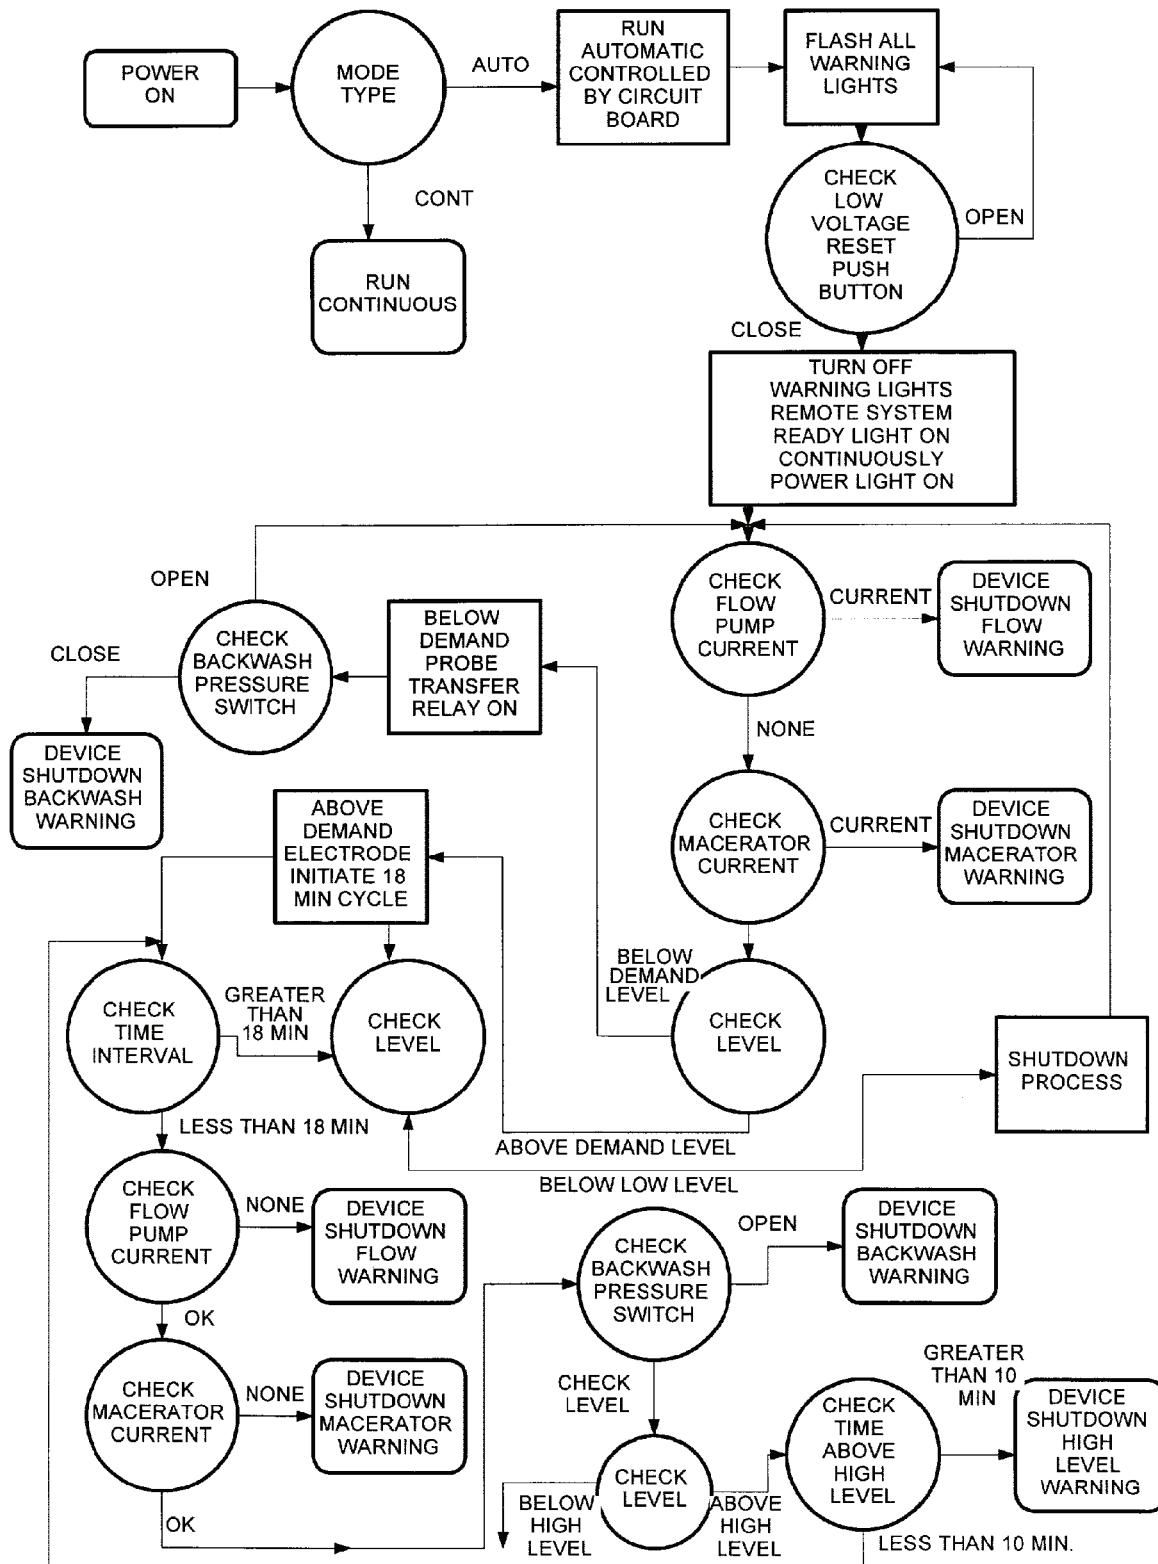

Figure 1-6. Software Functional Block Diagram.
**1-14. Software Interface.** The MSD software interface shows the interconnection and signal flow through the system. See Figure 1-6 for software functional block diagram.